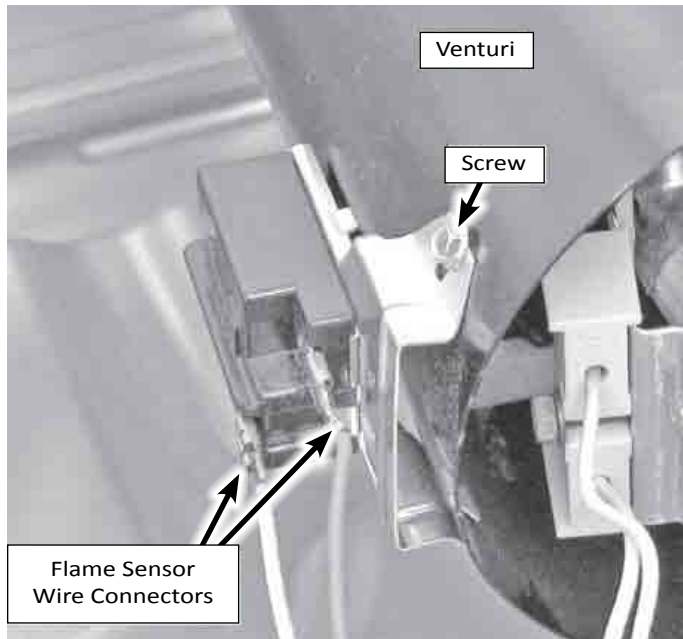

Figure 4
**6. To remove the Flame Sensor (see Figure 4):**
- a) Disconnect the two (2) wire connectors from the sensor terminals.